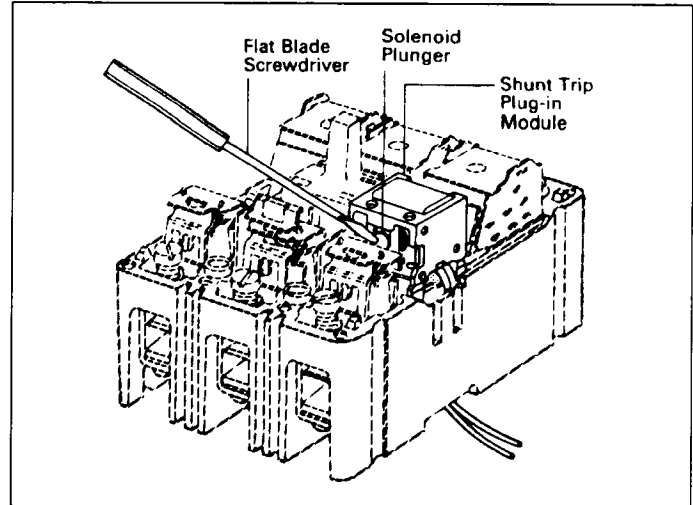

Fig. 2-6. Shunt Trip Mechanical Check
- b. Hold accessory in position. Using a small flat-blade screwdriver, push in on solenoid plunger (see Fig. 2-6). Circuit breaker should move to the trip position.